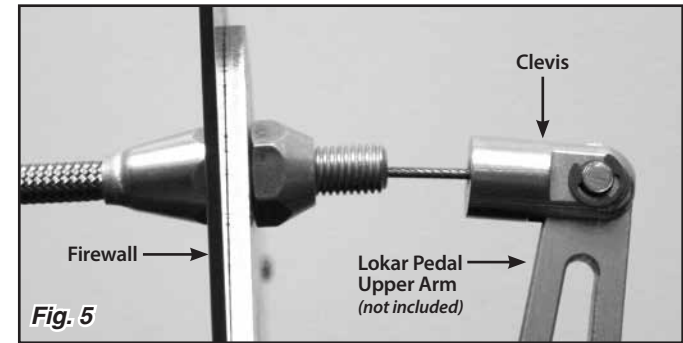

Fig. 5
Step 8: Reinstall the inner wire into the cable housing from inside the passenger compartment. Connect the clevis (or the ball end if the clevis was removed) on the new Lokar Throttle Cable to the Throttle Pedal. **Fig. 5**